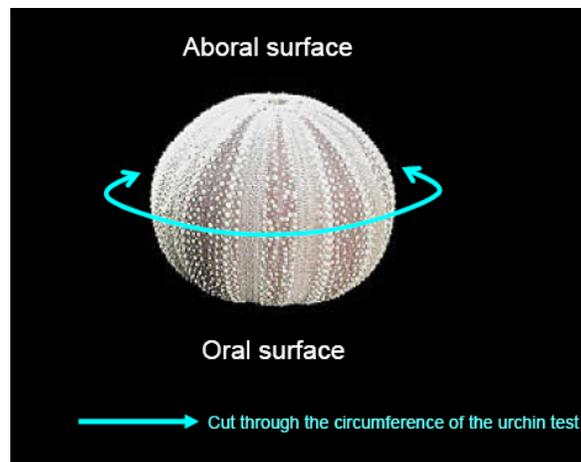

Figure. 1
4. Make a cut through the circumference of the urchin with sharp scissors or bone shears (Figure 1). Be careful not to cut too deep into the body cavity to avoid cutting internal organs.